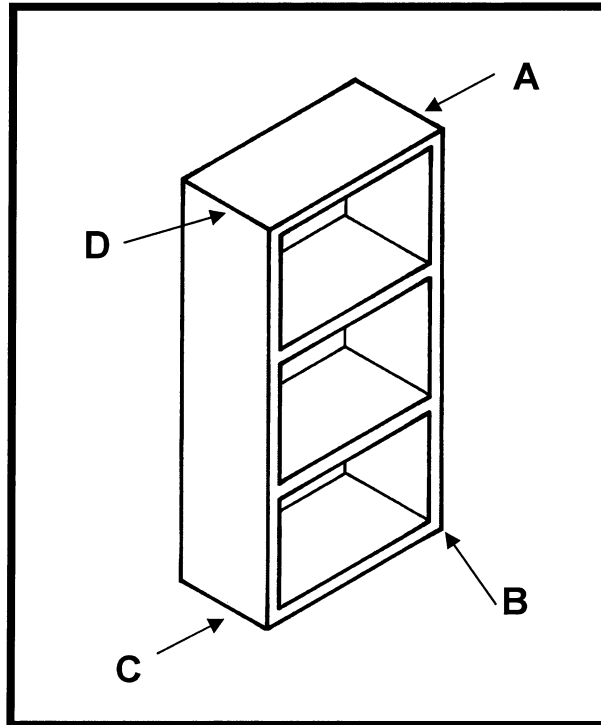

Figure 4.5
4.5 Figure 4.5 shows a sketch of a cabinet with shelves.